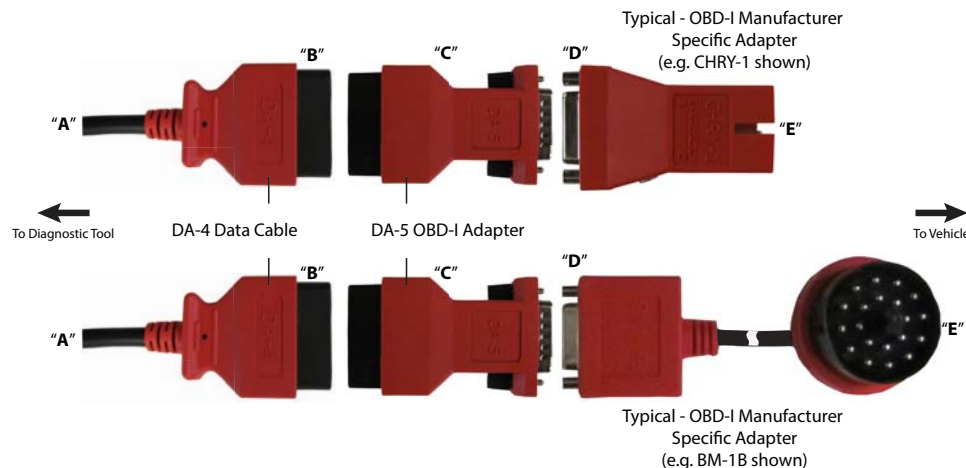

Figure 4-6 Typical connections using DA-5 adapter (two examples)
For most OBD-I (non-OBD-II/EOBD) compliant vehicles you can use the supplied DA-4 data cable with the optional DA-5 adapter and an optional manufacturer specific OBD-I adapter (*Figure 4-6*).
- The 26-pin end "A" of the DA-4 cable (*Figure 4-6*) connects to the diagnostic tool.
- The 16-pin end "B" of the DA-4 cable (*Figure 4-6*) connects to the DA-5 adapter "C".